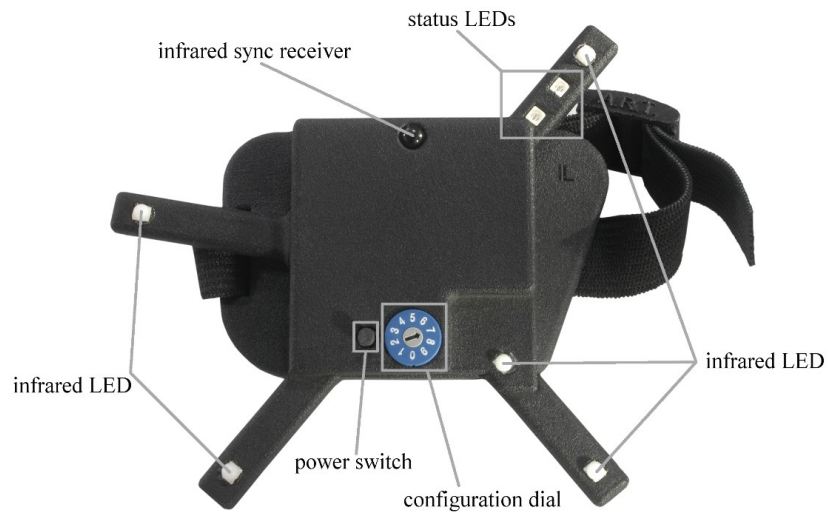

Figure 5.49: **Fingertracking** hand target (discontinued)
- a hand target unit for fixing on the back of the hand with IR LEDs (active markers) for tracking (see figures 5.49 on page 116).
On/off button Pressing the small black button next to the configuration dial activates or deactivates the target (please refer to figure 5.49 on page 116). After turning on the hand target unit, the status LEDs light up according to table 5.11 on page 117. When
Configuration dial The configuration dial is used to select the LED brightness and the number of fingers used in the setup (please refer to figure 5.49 on page 116). A detailed description of the configuration dial may be found in table 5.12 on page 117.
The black sphere on top of the *Fingertracking* hand targets is a receiver for the coded IR flash (i.e. modulated infrared signal) which is used for synchronization (see figure 5.49 on page 116). This coded signal can be generated by all *ARTTRACK* cameras (*DTRACK3* is required). In some cases (discontinued products) an additional external flash is necessary. Please contact your *ART* representative.